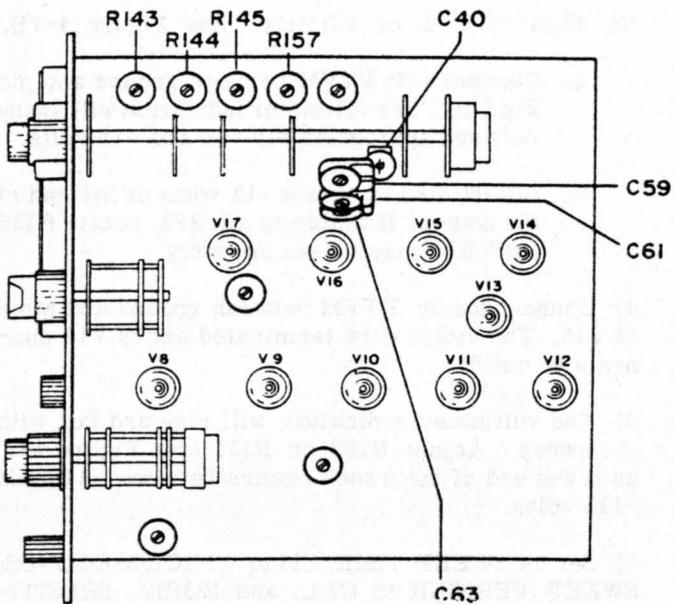

Figure 4-9A
- 4) Adjust C67 (C63 in Figure 4-9A) so two cycles of the sine wave are 10 centimeters long.
Skip Steps 7, 8, and 10 if Sweep Switch has configuration shown in Figure 4-9A.